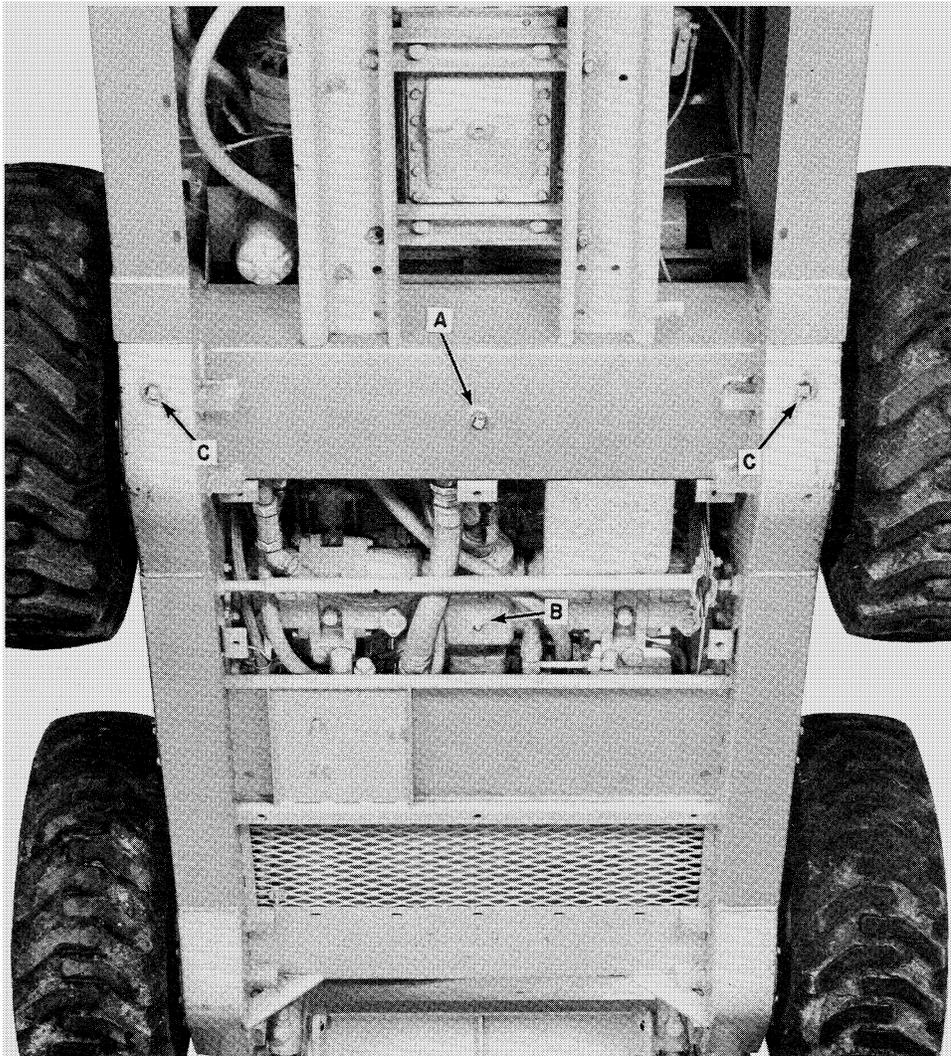

FIGURE 1
1. Drain the oil from the hydraulic oil reservoir, A, gear box, B, and both final drive chain cases, C, see Figure 1.